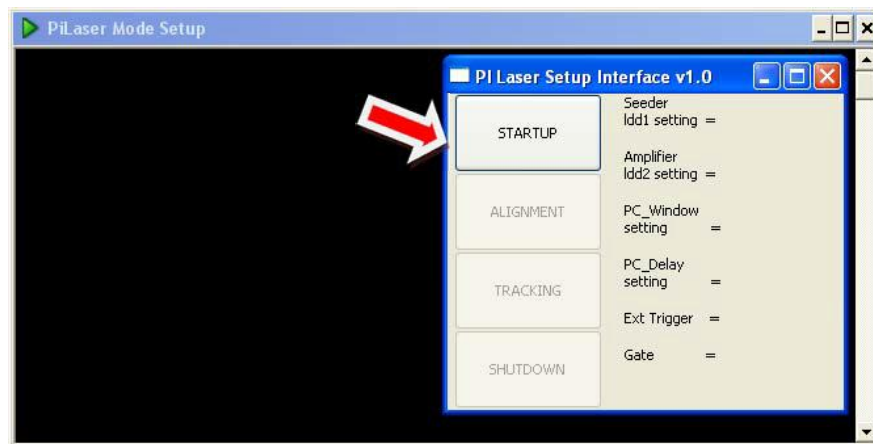

Figure 3-31: PI Laser Interface prior to starting the laser
- a. Click on the icon for the SLR Laser Control software (Figure 3-30). This will open two windows as shown on Figure 3-31.
- b. **Select the STARTUP button** (Figure 3-31)